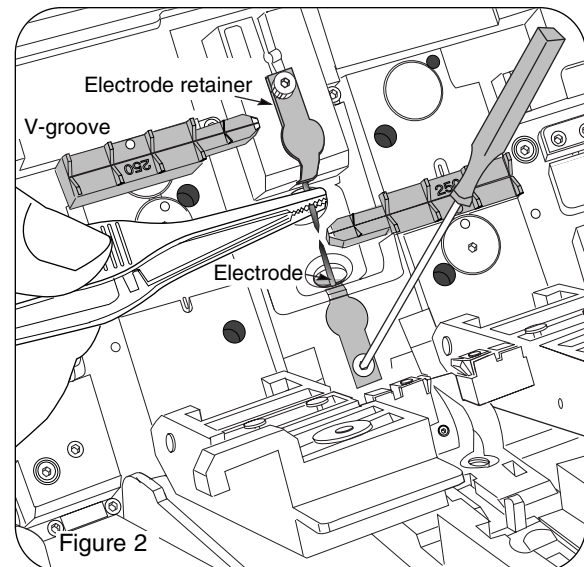

Figure 2
2. Use the hex wrench and tweezers to (Figure 2):